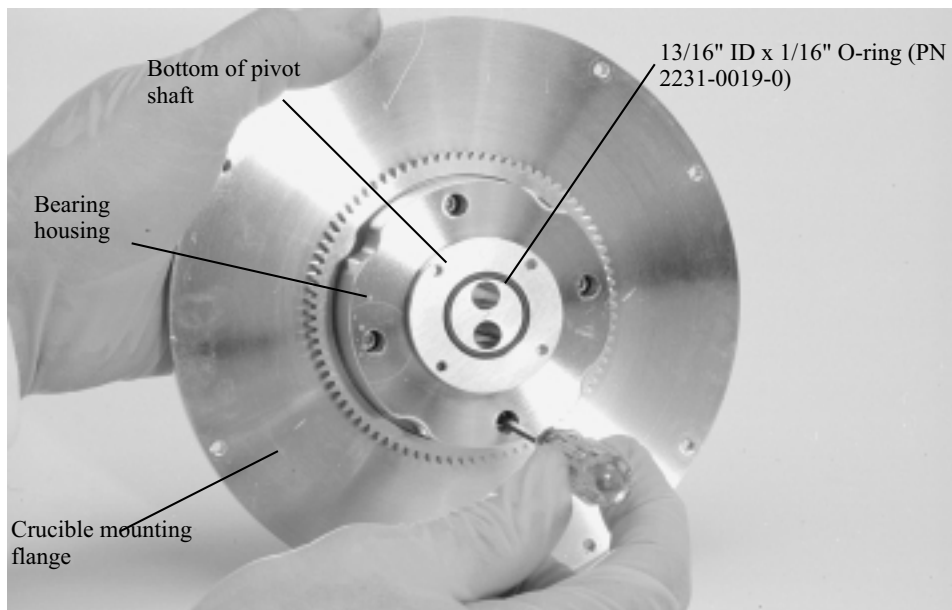

Figure 6-23. Removing the screws that secure the bearing housing assembly to the crucible mounting flange
Step 23: Remove the four 6-32 5/8" screws that secure the bearing housing to the crucible mounting flange. To do so hold the bearing housing-mounting flange assembly in one hand, with the top of the mounting flange facing down. Then insert the Allen driver into the recesses in the bearing housing that hold the four screws and remove them, as shown in Figure 6-23. Figure 6-24 shows these parts disassembled.